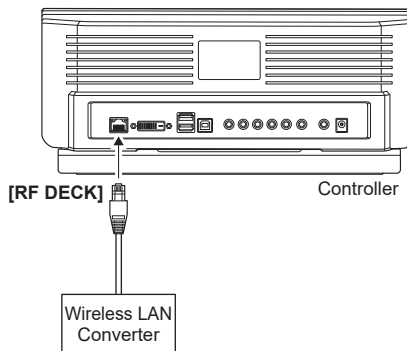

Figure 09-21. Connecting the Wireless LAN device
- 19). Connect a wireless LAN device to the [RF DECK] port of the Controller. (Figure 09-21)